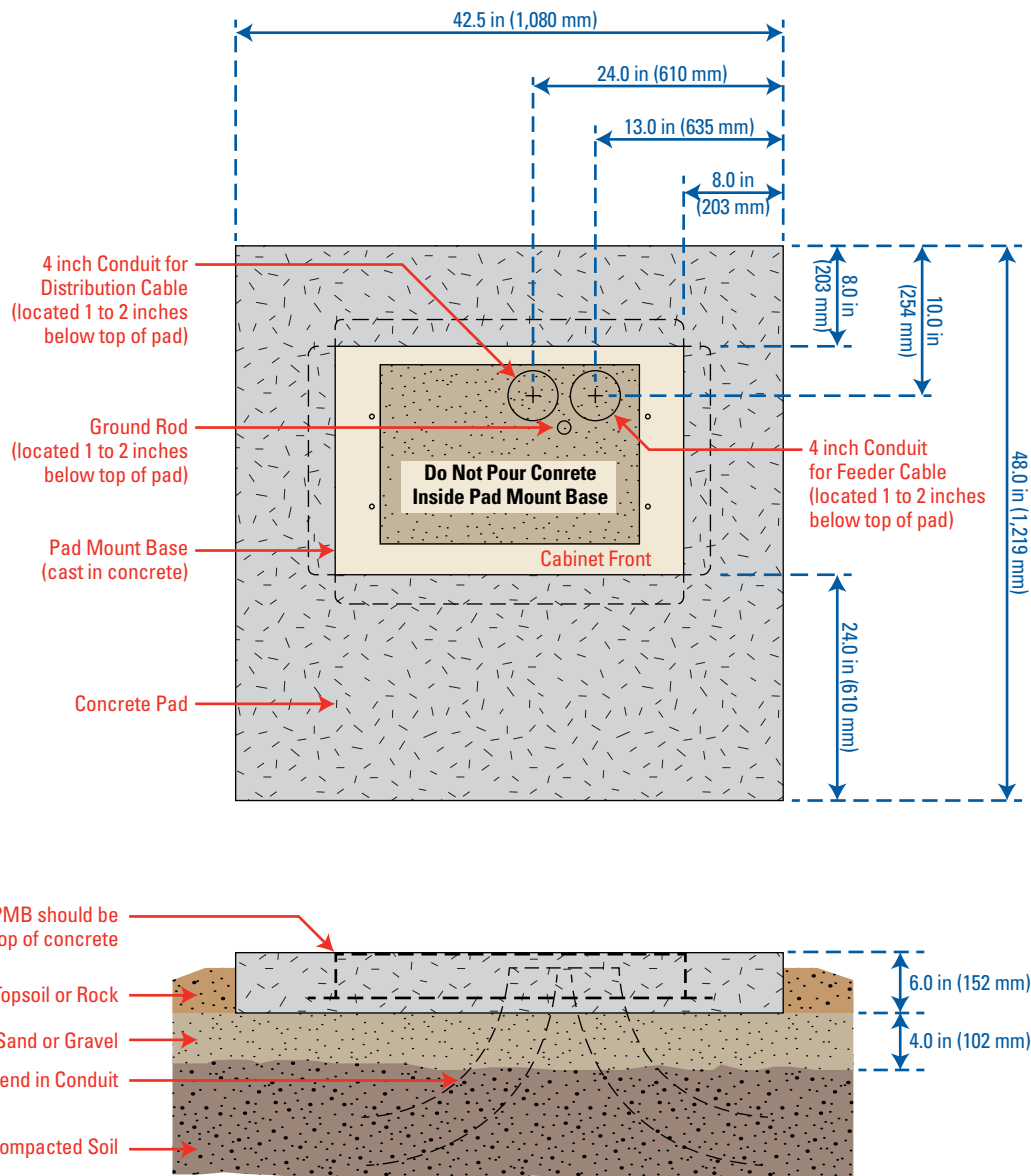

Figure 7: Constructing the concrete pad for the outdoor FDH-288 cabinet (suggested pad dimensions)
3. Build a wood form with 2 x 6 lumber as indicated in [Figure 7] and lay into place. Temporarily place the PMB within the wood framing to mark the conduit placement location. Mark the soil with paint and remove the PMB.
4. Install conduits to the site location in accordance with measurements indicated on the next page [Figure 7]. The sub base should consist of compacted soil and a base of 4 to 6 inches of sand or gravel above. Conduits must have a 90° bend that accommodates the applicable fiber cable bend radius and needs to be 1 to 2 inches below the PMB surface level. If pad placement is in a low area, raise and slope accordingly to help keep water away from the FDH cabinet site.
5. Secure the wood frame with wood stakes and level for concrete installation. Reinstall the PMB into position within the wood frame. Install the ground rod as indicated in [Figure 7] and according to local codes. Make sure the ground rod is 1 to 2 inches below the PMB height.